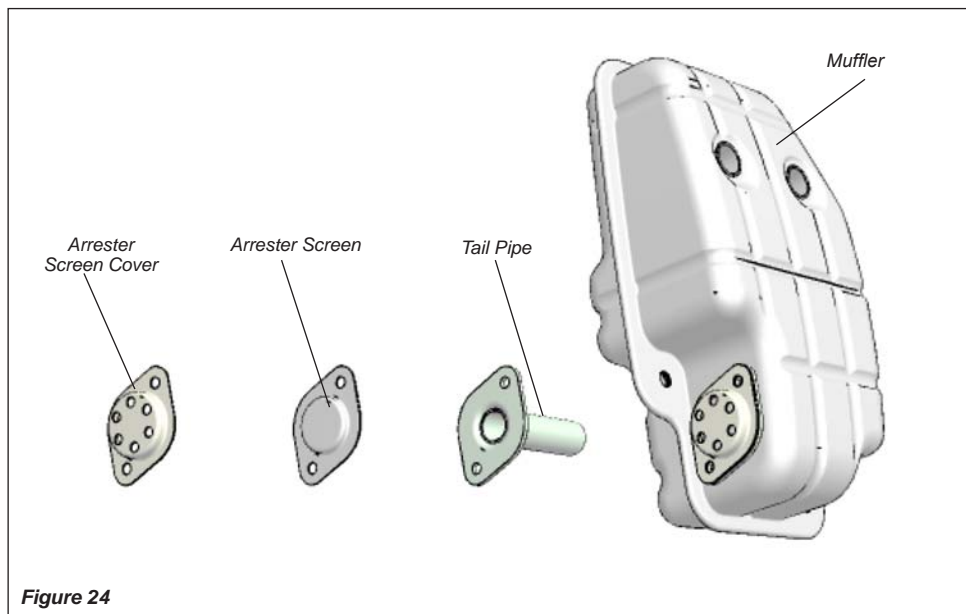

Figure 24
3. Use the screwdriver to remove the two exhaust tube mounting screws, and then remove the tail cap, exhaust tube, gasket, and arrester screen. See figure 24.